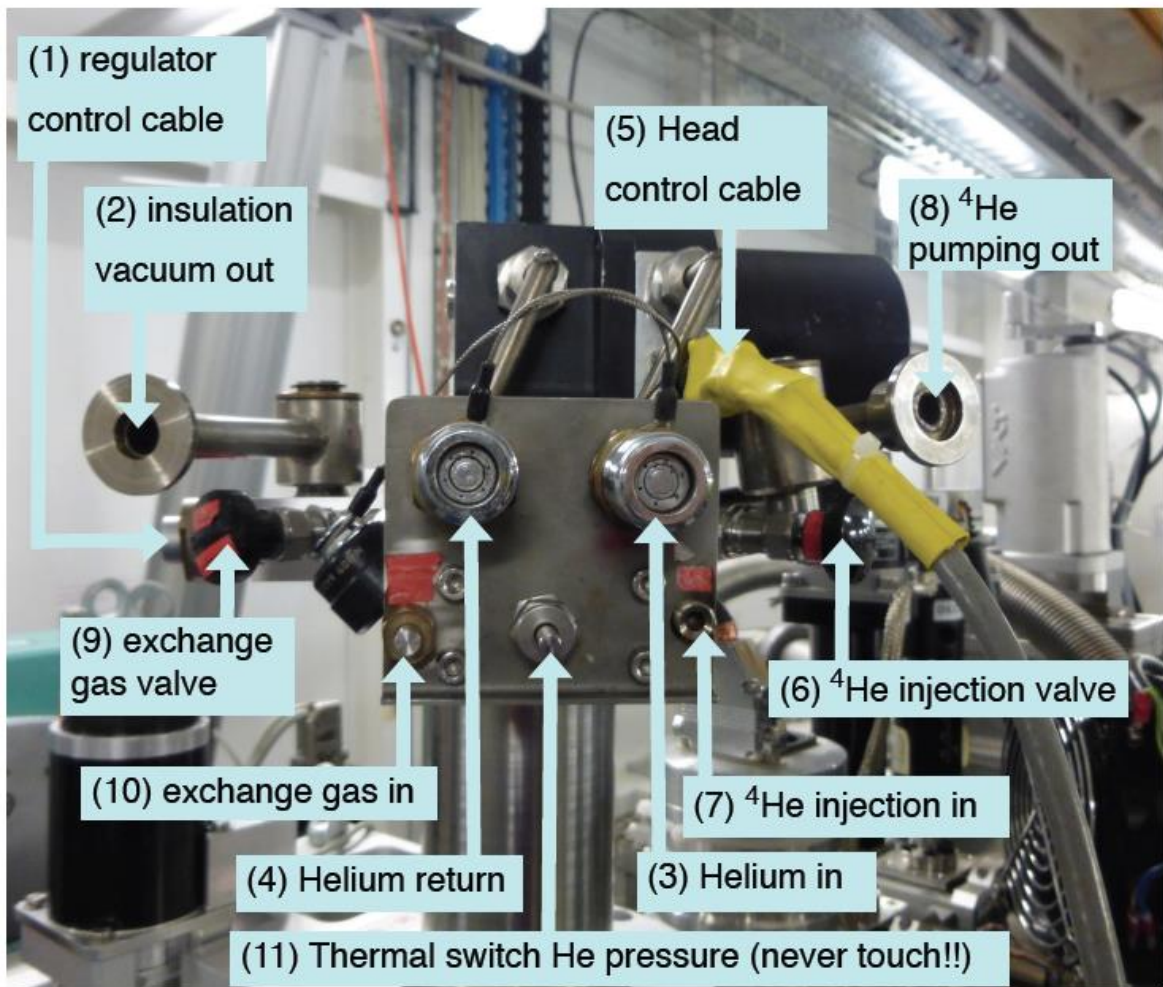

Fig.2 General picture of the displacer head connections.
- Connect the 340 lakeshore temperature controller to the cryostat, Fig.2(1).
- Pump the insulation vacuum in the displer, Fig.2(2).
- Connect the cold head with the compressor's 2 Helium flux lines, taking care about the helium in (green, Fig.2(3)) and the return (red, Fig.2(4)). Connect also the controller cable on the diplex head, Fig.2(5).
- Purge the cryostat's internal injection line. This is done by first opening the ^4He injection valve Fig.2(2) on the cryostat, and then starting to pump the flexible helium tube. When the tube is purged, open the helium pump valve, Fig. 2(1). Continue to purge the system for at least 1 minute and then close the helium pump valve. Break the vacuum inside the helium tube.
- Turn off the vacuum pump, open the vacuum to air (Fig.2(2)) and carefully remove the Berllium domes, using gloves.